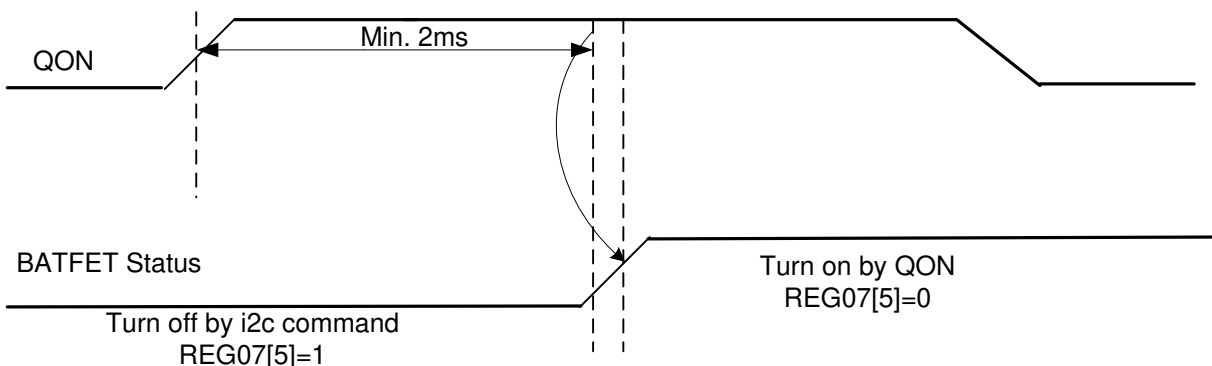

图 9-1. QON Timing
5. A logic low to high transition on QON pin (refer to 图 9-1 for detail timing)